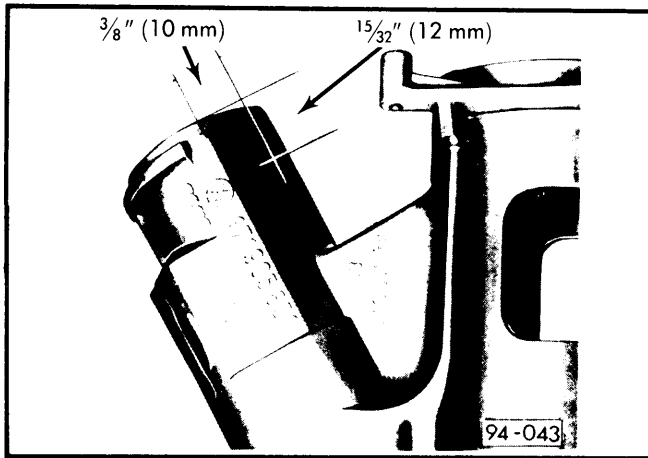

Fig. 3 Measurements for Drilling into Steering Lock Cylinder
**Removal; Type 2, Rabbit & Scirocco** — 1) It is necessary to drill into cylinder lock to gain access to cylinder release pin. Refer to Fig. 3 to determine where  $\frac{1}{8}$ " hole must be drilled.